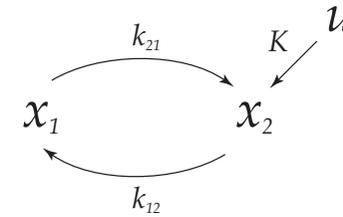

Figure 8.16a. Protein in two possible conformations.
8.16 Figure 8.16a shows a protein that changes between the conformations  $x_1$  and  $x_2$ . The kinetic parameters  $k_{ij}$  determine the rate of the conformational changes. The input signal,  $u$ , together with the constant,  $K$ , represent introduction of  $x_2$  to the system. We assume that we can measure  $x_2$ , i.e.  $y = x_2$ . All reaction rates are assumed to be given by expressions proportional to the concentration of the states they emanate from. That is, for a state  $i$  the differential equation will be  $\dot{x}_i = \sum_p k_{ip} x_p - \sum_q k_{qi} x_i$ , where  $p$  is the number of incoming and  $q$  the number of outgoing flows from the state  $i$ . This corresponds to mass action kinetics for a regular biochemical reaction network.